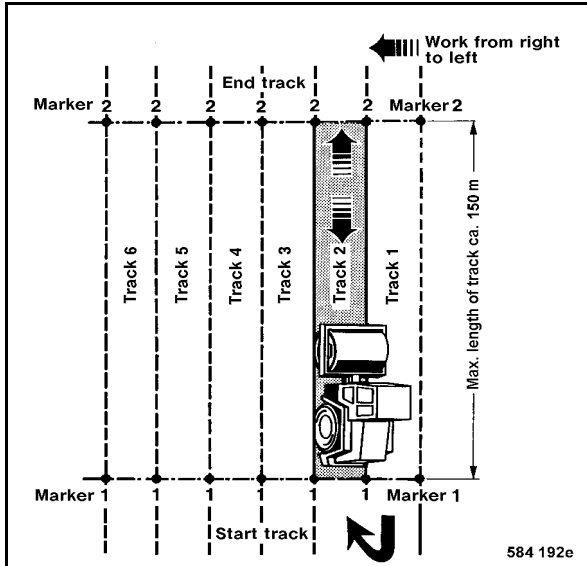

Fig. 101
- Repeat the complete compaction process on the next track (Fig. 101) to record measuring values.